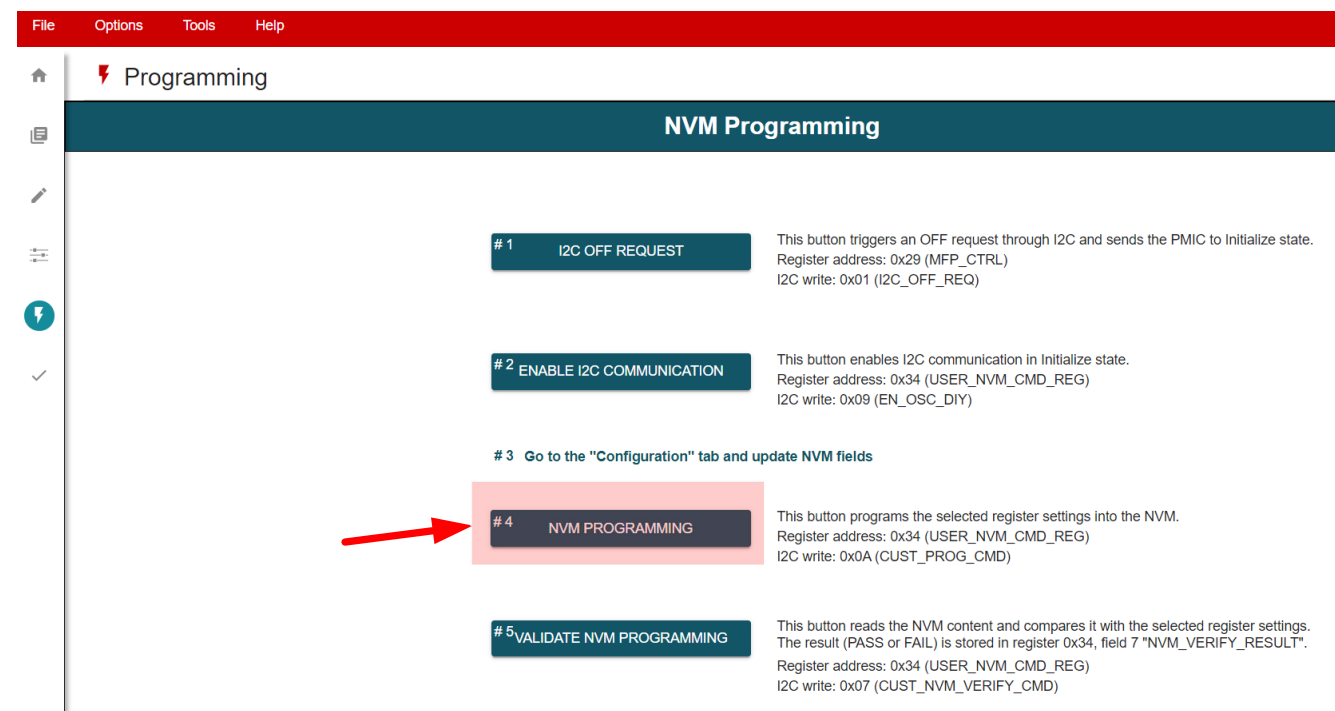

Figure 5-13. NVM Re-programming Using TPS65215-GUI
- Figure 5-13 shows the button that saves the register settings into the NVM when using the TPS65215-GUI.